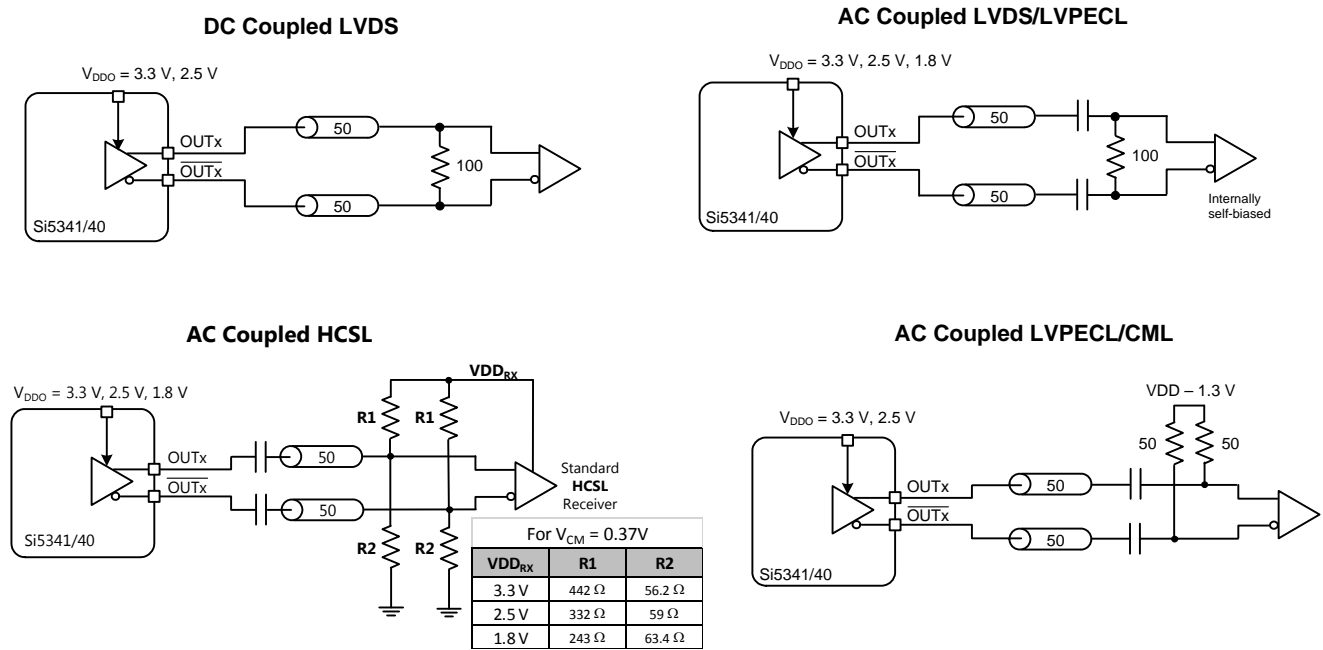

Figure 9. Supported Differential Output Terminations
The differential output drivers support both ac-coupled and dc-coupled terminations as shown in Figure 9.
2. Creates HCSL compatible signal. See Figure 9.